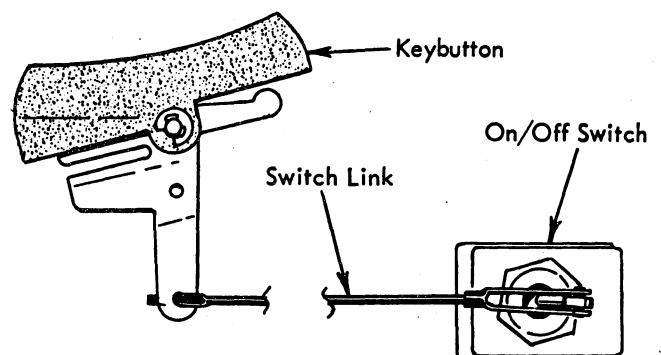

FIGURE 50. On/Off Switch
- Switch Link** - With the On/Off Switch in the off position adjust the switch link so that the On/Off keybutton matches the slope of the keyboard (Fig. 50).